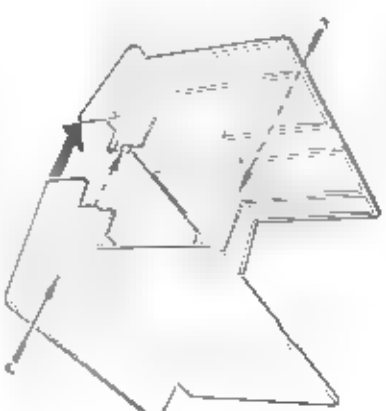

Figure 3-12 Assemble Floor Stand Halves
1. Fit the two halves of the floor stand together, as shown in Figure 3-12.
2. Place the floor stand on its side with the base toward you. Insert one of the two long screws that came with the stand into the screw hole on the left, as shown in Figure 3-12, and tighten.